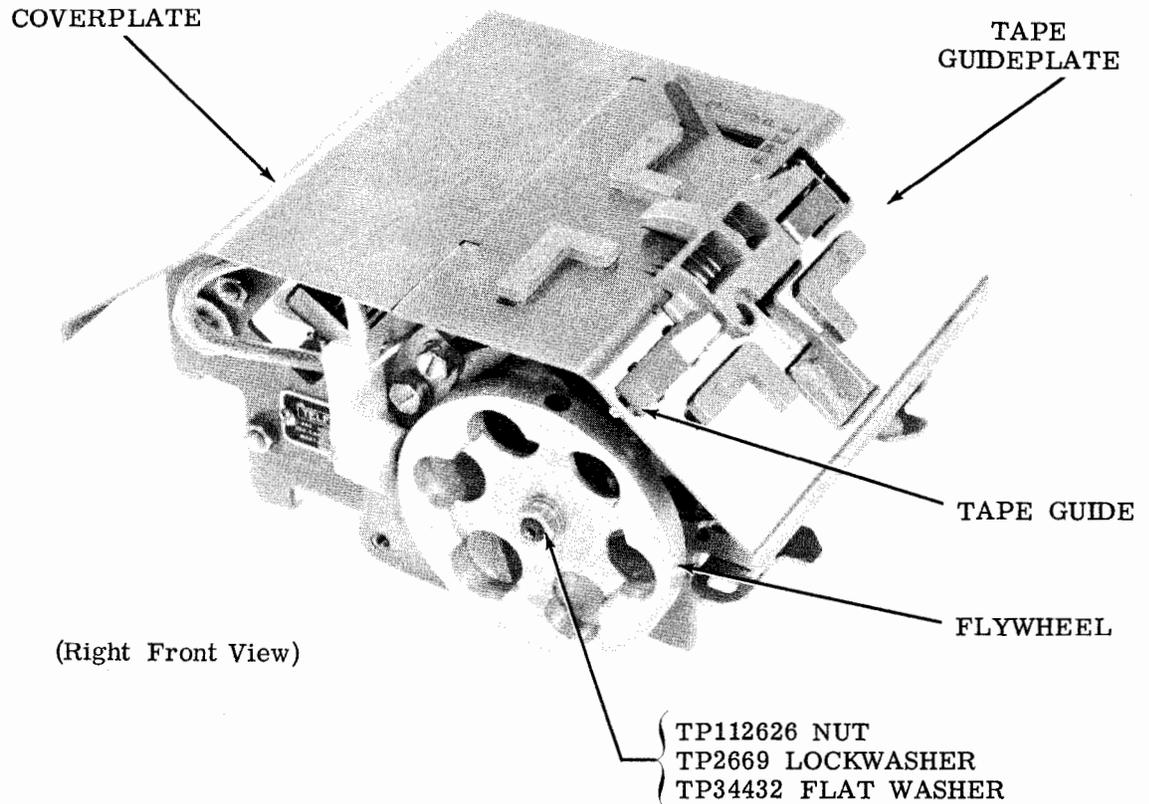

Figure 3 - Tape Reader Unit
(1) Remove the driven gear or driven sprocket, whichever is applicable (2.01).
(2) Remove the TP151688 screw, the two TP125011 flat washers, the TP3640 lockwasher, and the TP3599 nut. (The TP151688 screw passes through the main shaft at the flywheel shoulder.)
(3) While holding the TP12782 flywheel firmly, remove the TP112626 nut, TP2669 lockwasher, and TP34432 flat washer (Figure 3).
2.20 To remove any of the four adjustable tape guides (TP179516 or TP179517), remove the associated nut, flat washer and spring (Figure 3).